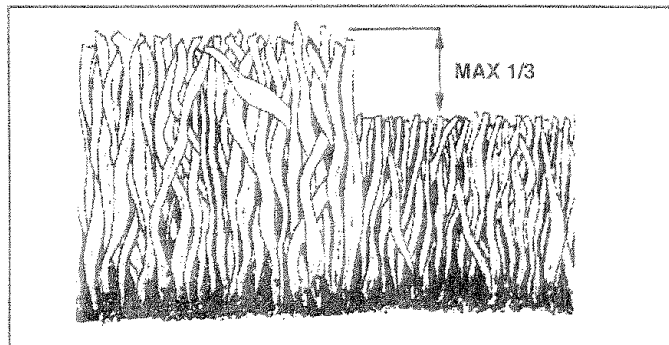

FIG. 12A
- For best results, adjust the mower cutting height so that the mower cuts off only the top one-third of the grass blades (See Fig. 12A). For extremely heavy mulching, reduce your width of cut and mow slowly.